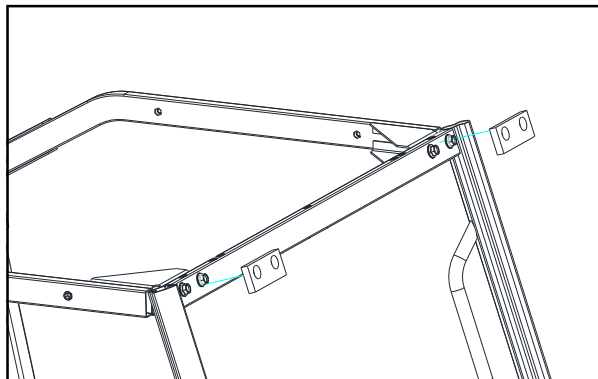

Fig. 6.1
6.1 Prior to installing the windshield support, apply the foam gaskets to the front ROPS bar, per Figure 6.1.